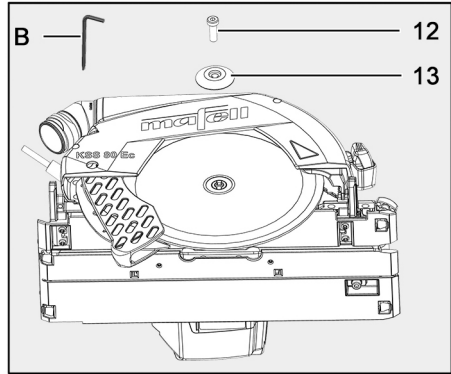

Fig. 9: Removing the old saw blade
2. Using the Allen key (B) provided, turn the screw (17) **counterclockwise** to loosen it.
- Do not exceed the maximum distance to the saw blade (see Fig. 9).
4. Using the Allen key (B), turn the flange screw (17) **clockwise** to tighten it.